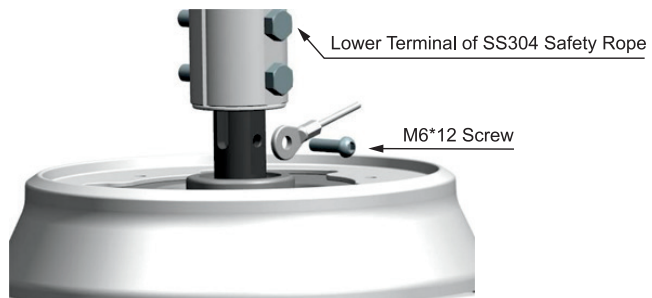

Figure. 4.2
④ Connect the safety rope by giving a M6\*12 hexagonal screw, flat washer, spring washer through the lower terminal of SS304 wire rope, and fix it on the hole of the motor shaft (see Figure 4.2)